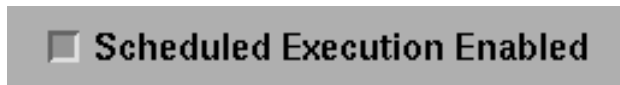

Figure 3-50. Cyclic execution Enabled Target
4. Enable Cyclic Execution by selecting the Scheduled Execution Enabled target, Figure 3-50.